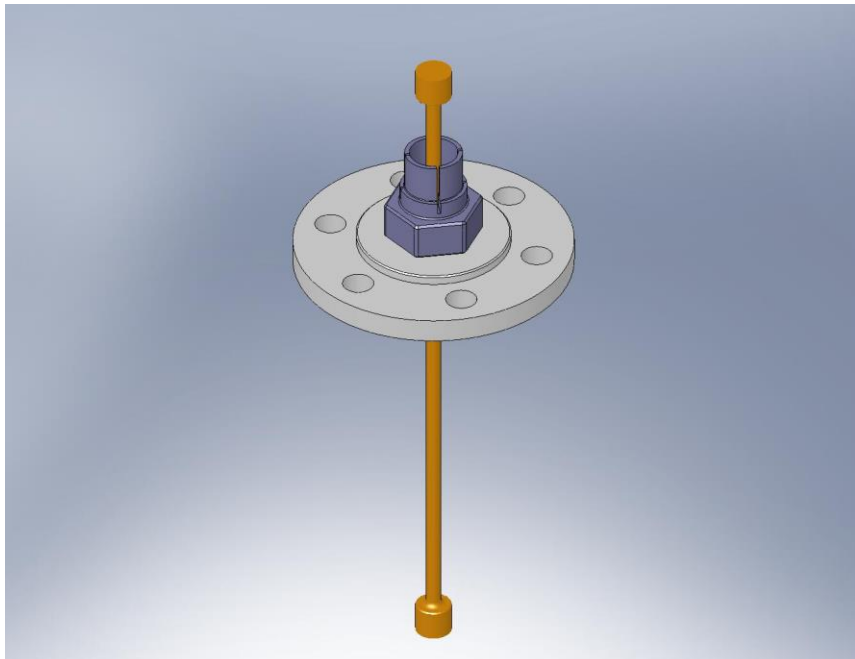

Figure 4.9. Insert Flexure.
- Insert **Flexure** (D071102) through **Flexure Mount**, as shown in Figure 4.9.